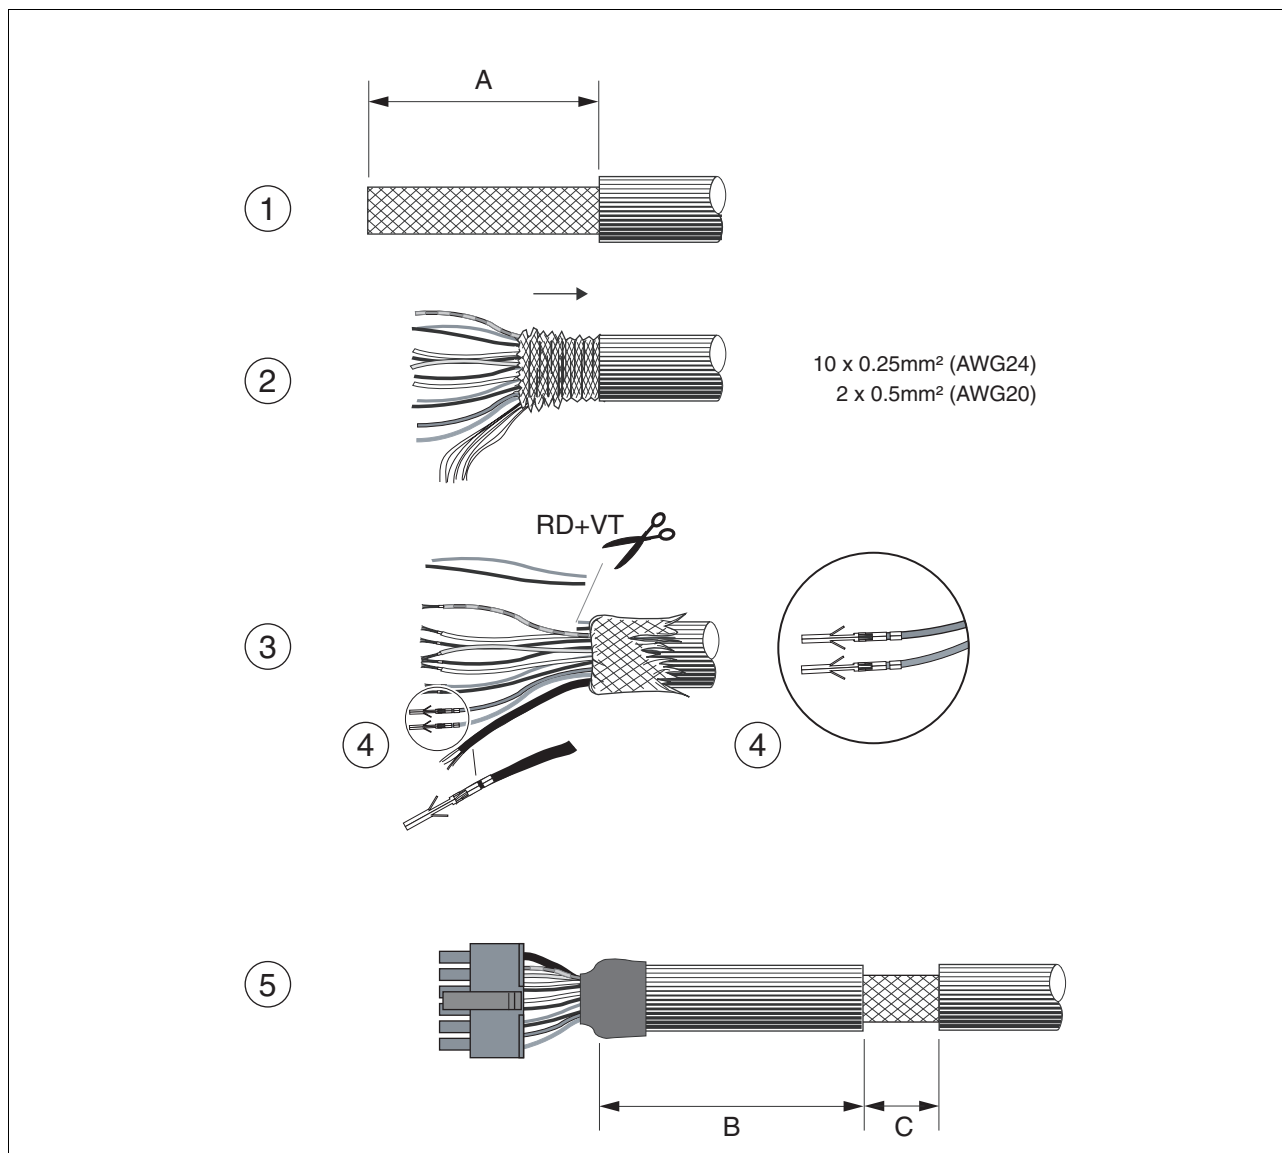

Figure 6.17 Steps (1-5) for fabrication of the sensor cable
- Use prefabricated cables to minimise the risk of a wiring fault (from page 12-2). Step 5 in Figure 6.17 must be carried out even with prefabricated cable. The dimensions for positioning the shield on the case are applicable when the included EMC plate is used.
- If you are not using prefabricated wiring, follow the procedure and the dimensions in Figure 6.17.